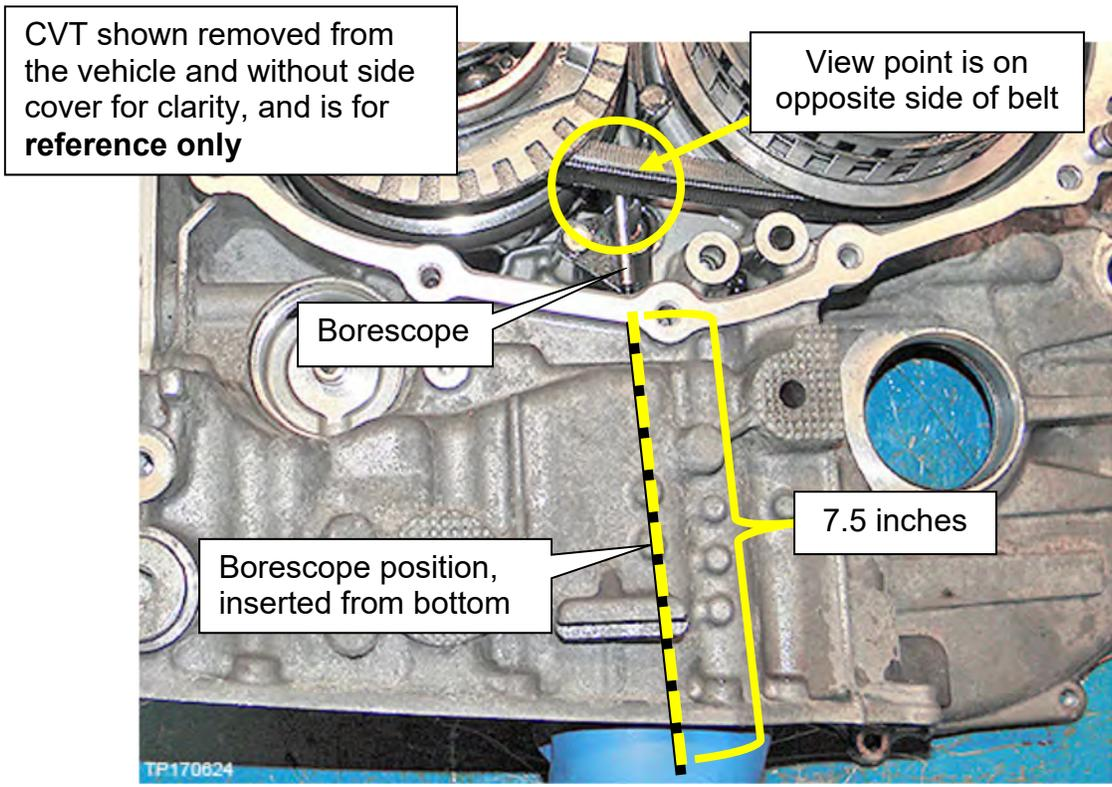

Figure 17
- II. Insert the lens approximately 7.5 inches from the CVT oil pan gasket surface as shown in Figure 17 on page 12.